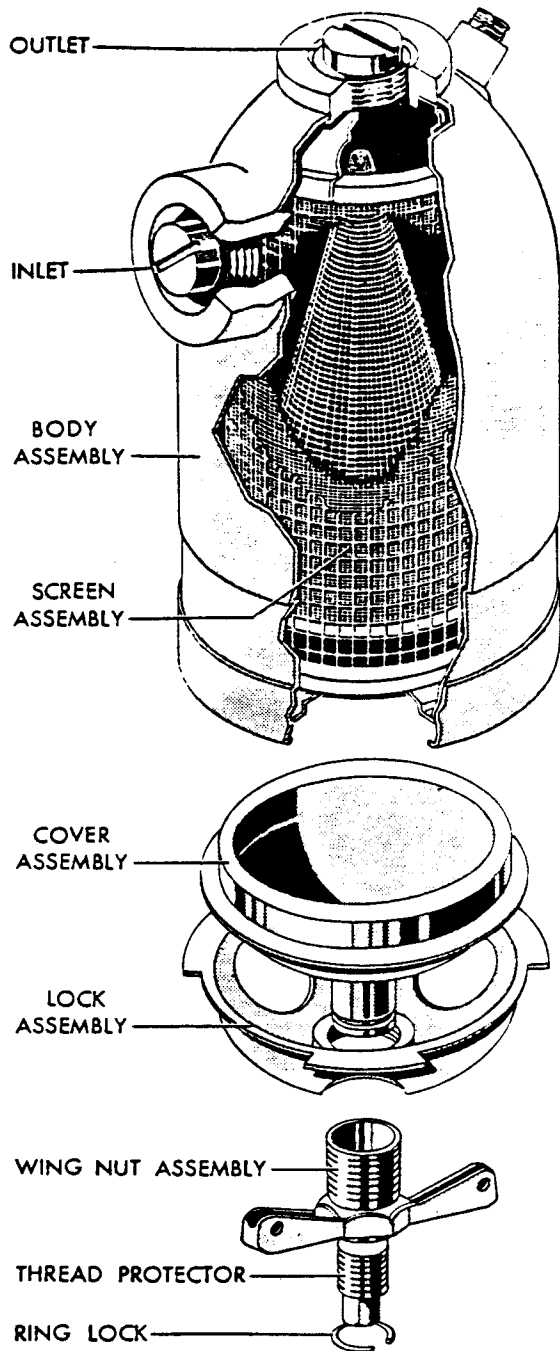

Figure 11. Fuel Strainer
(1) DESCRIPTION. (See figure 11.) A type C-6 fuel strainer is installed in each fuel supply line, between the "EMERGENCY FUEL SHUT-OFF VALVE" and the engine. These strainers are located on the aft side of the front spar in the forward section of bomb bays numbers one, three, six and eight.